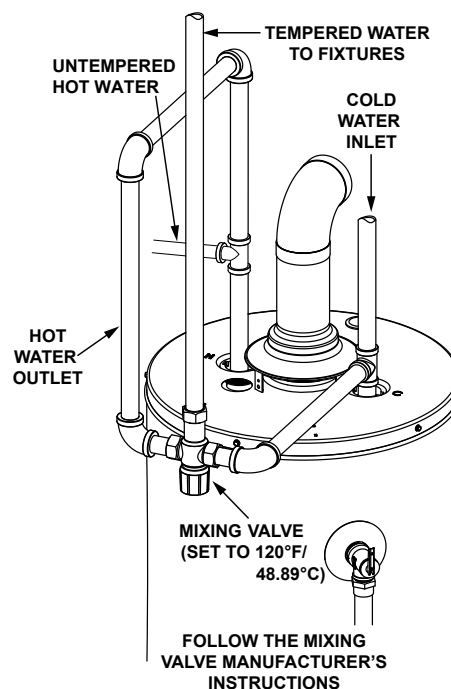

FIGURE 12.
3. The manufacturer of this water heater recommends installing a mixing valve or an anti-scald device in the domestic hot water line as shown in Figure 12. These valves reduce the point-of-use temperature of the water by mixing cold and hot water and are readily available for use.